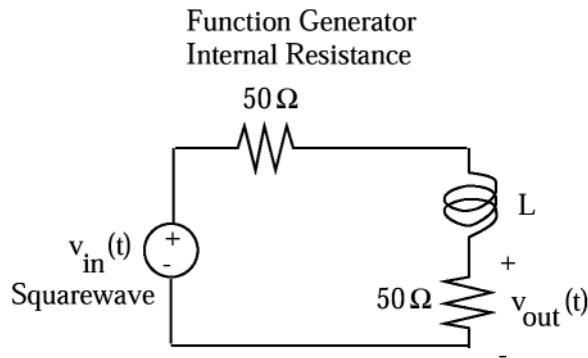

Figure 3: Circuit for Measuring Coil Inductance
7. The inductance of your coil will be in the vicinity of 10-30 μH . Think about how you might measure the inductance. Hint: Suppose the inductance is 10 μH and you placed the coil in series with a 100 Ω resistor. Then, you applied a 300 kHz square-wave to the series combination. What would the voltage across the 100 Ω resistor look like? Each student is required to measure the inductance of their coil. To measure the inductance of your coil, obtain a 50 Ω resistor, measure its value, and connect it in series with your coil on either your project board or the bench-top board. Connect the function generator across the series combination. The equivalent circuit of this measurement scheme is shown in Figure 3.